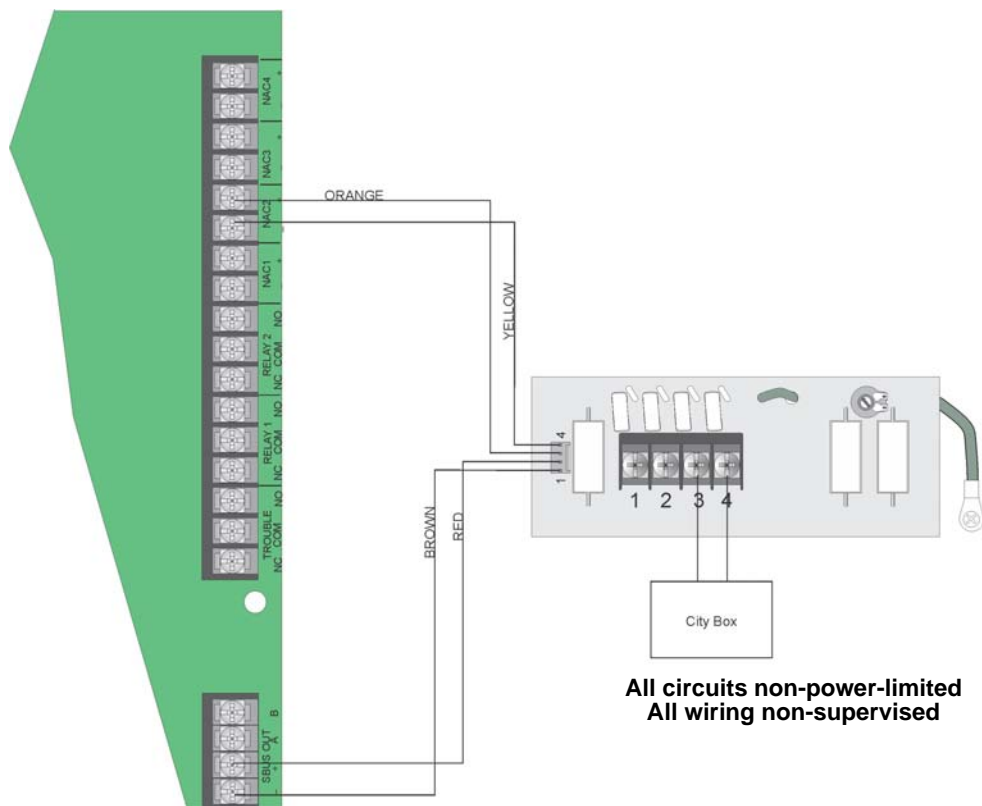

Figure 4-55 City Box Connection
2. Wire the 5220 to the control panel as shown in Figure 4-55. This drawing also shows how to connect the city box coil to terminals 3 and 4 on the 5220.